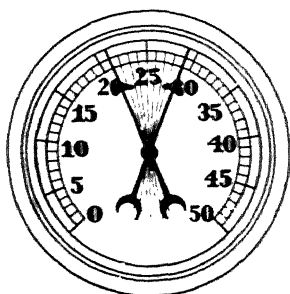

Fig. 30. Fast Vibration of Needle—Valve Guides Loose
**Loose Valve-Stem Guides.** When intake valve-stem guides are worn, a fast vibration of vacuum gauge needle, Fig. 30, at idling speed instead of a drop will be noted. This fast vibration disappears with the increasing speed of the engine.